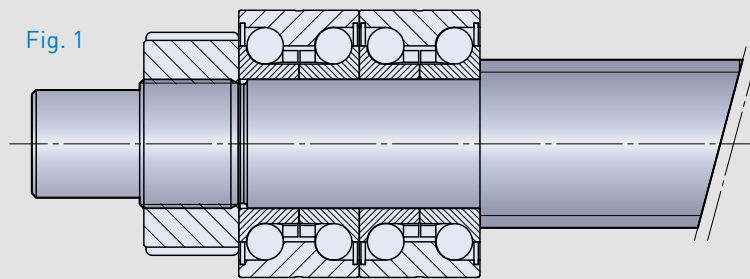
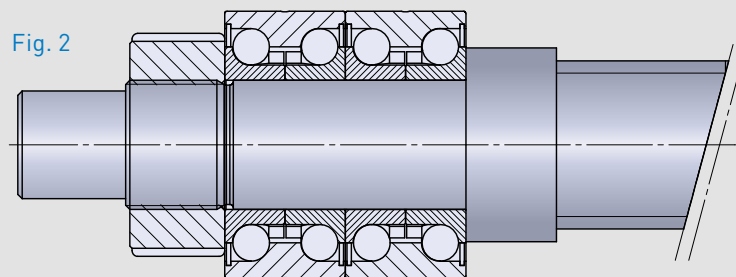

Fig. 1: The most simple and cost-effective option consists of a bearing journal that is sufficiently small
Fig. 2: If the full shoulder is not sufficient, a shrunk-on ring with an
- Support shoulder for the bearing inner ring no larger than the minor diameter of the shaft for journal version fig. 1 (see page 13).
According to chapter 2.3 (page 13) fig. 1 (complimentary to standard machining A described in chapter 2.3.3)	According to chapter 2.3 (page 13) Fig. 2